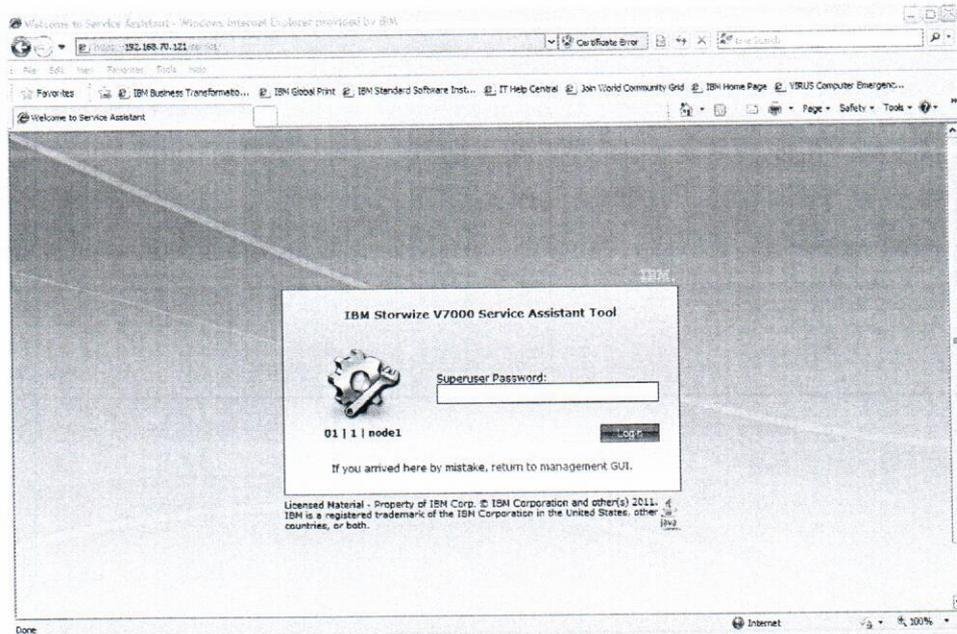

Figure 11 IBM Storwize V7000 Service Assist WEB interface
13) The IBM Storwize V7000 Service Assist WEB interface opens (Figure 11)